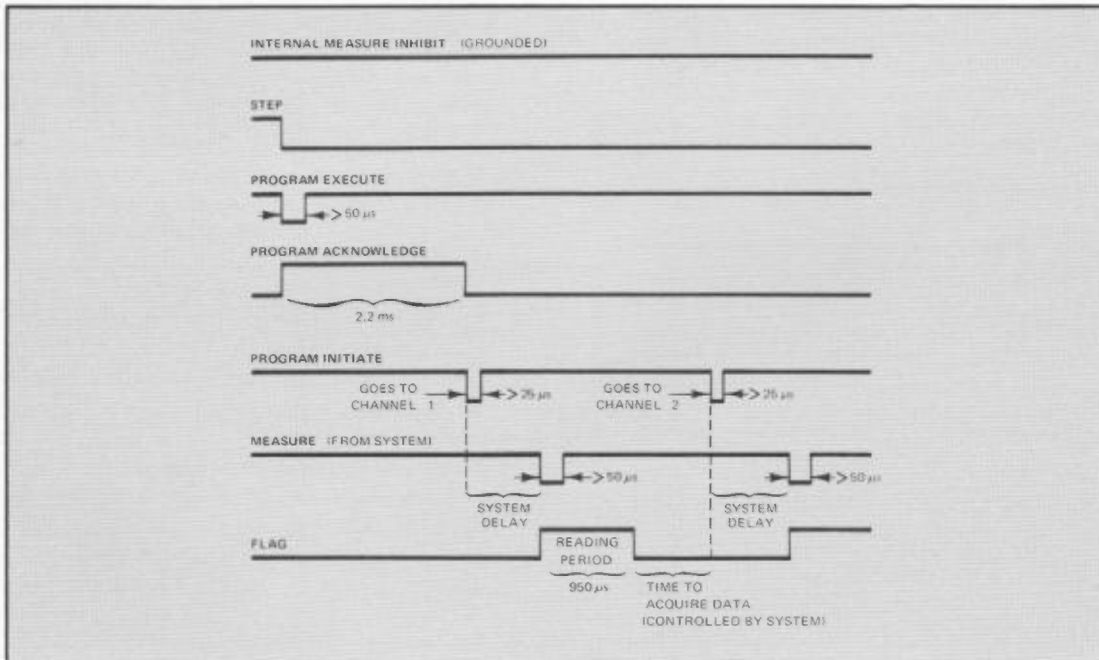
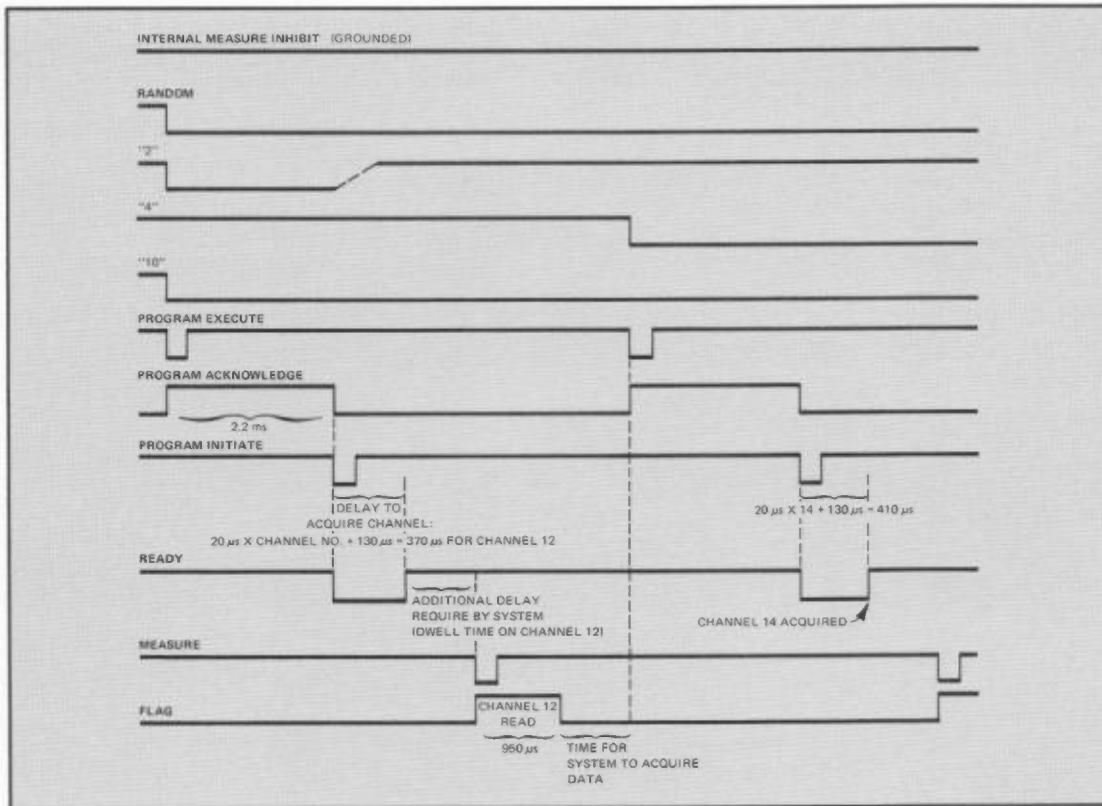

FIGURE 10
FIGURE 11
- Complete remote control is used only when (1) different channel delays are needed on each channel, or (2) where a specific delay not covered in the six CHANNEL DELAY positions is needed or (3) where the Scanner is to be completely under system control.
- Figure 10 gives an example in the STEP mode and Figure 11 shows operation in the RANDOM mode.